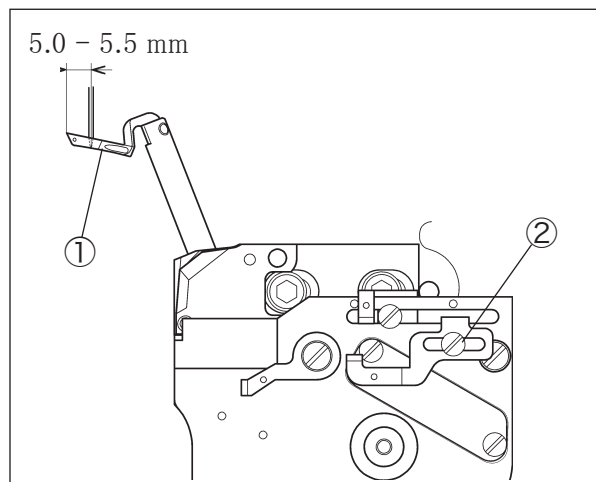

Fig. 6-28
- (1) Loosen the screw ②. (Fig. 6-28)